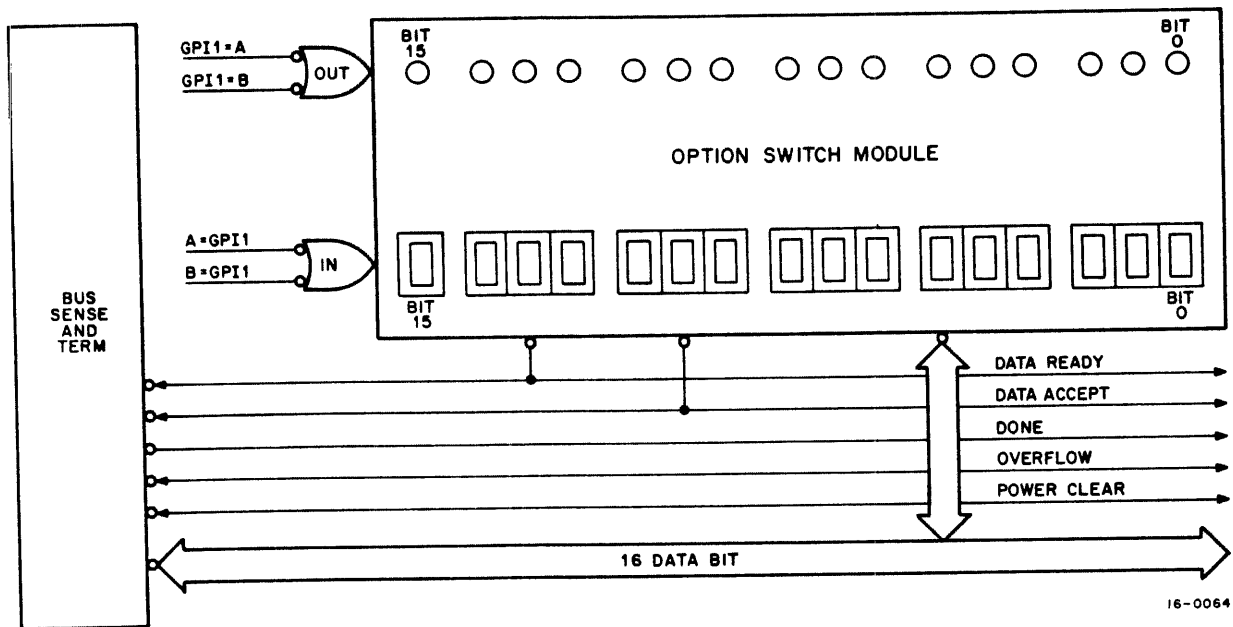

Figure 5-5 Option Switch Module M7334, Application Diagram
5.1.2.3 Option Switch Module M7334 – To run the option diagnostic, steps 5 through 7 of Paragraph 5.1.4 must be completed and the basic diagnostic must have run without error. The M7334 module (Figures 5-5 and 5-6) has a 16-bit Data Register and 16 switches. Each switch identifies a particular option to the diagnostic program. In only one application is more than one switch used at a time. To test an option, find the desired switch setting in Table 5-2 and assert the switch to a 1 (white dot showing). In situations where data is to be examined, the Data Register will contain the data read.